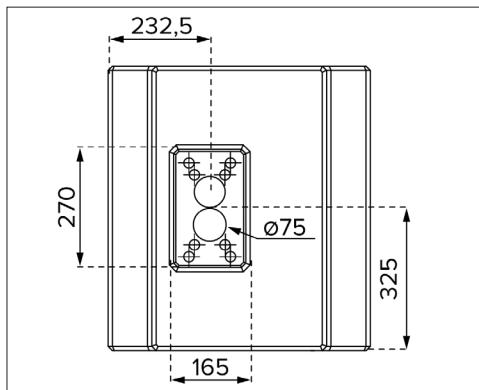

Fig. 3: Dimensions of prefabricated foundation [mm] - Top view
The asymmetrical positioning of the foundation block allows installing the product close to the curb (In the Figure 3: Providing curb on the left side).
- "Fig. 3: Dimensions of prefabricated foundation [mm] - Top view"